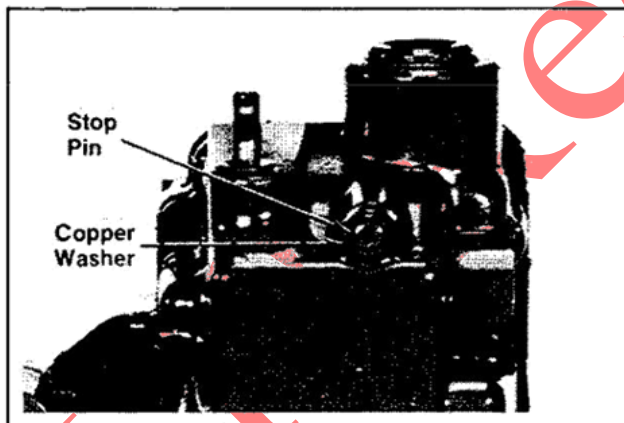

Figure 11-8. Installing Governor Stop Pin.
3. Install the copper washer and governor stop pin. Refer to Figure 11-8.